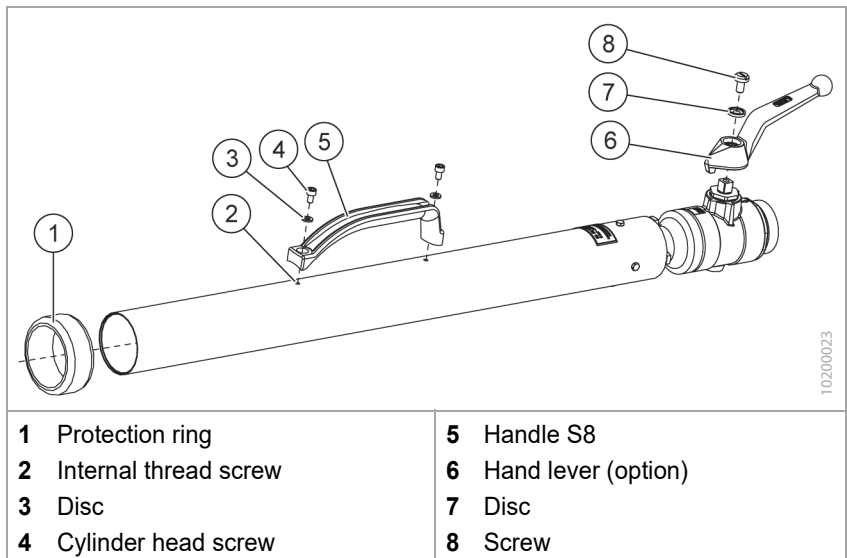

Fig. 3 Repair
1. Lever the protection ring with studs out of the bores, and pull the protection ring (Fig. 3/1) off the foam tube.
1. Unscrew the cylinder head screws (Fig. 3/5).
2. Remove the handle (Fig. 3/6) from the foam tube.
3. Insert the cylinder head screws and the discs (Fig. 3/8) into the new handle.
4. Place the handle in the correct position on the internal thread screws (Fig. 3/3) and screw tight.
1. Unscrew the screw (Fig. 3/9).
4. Insert the screw and the disc (Fig. 3/8) into the new hand lever.